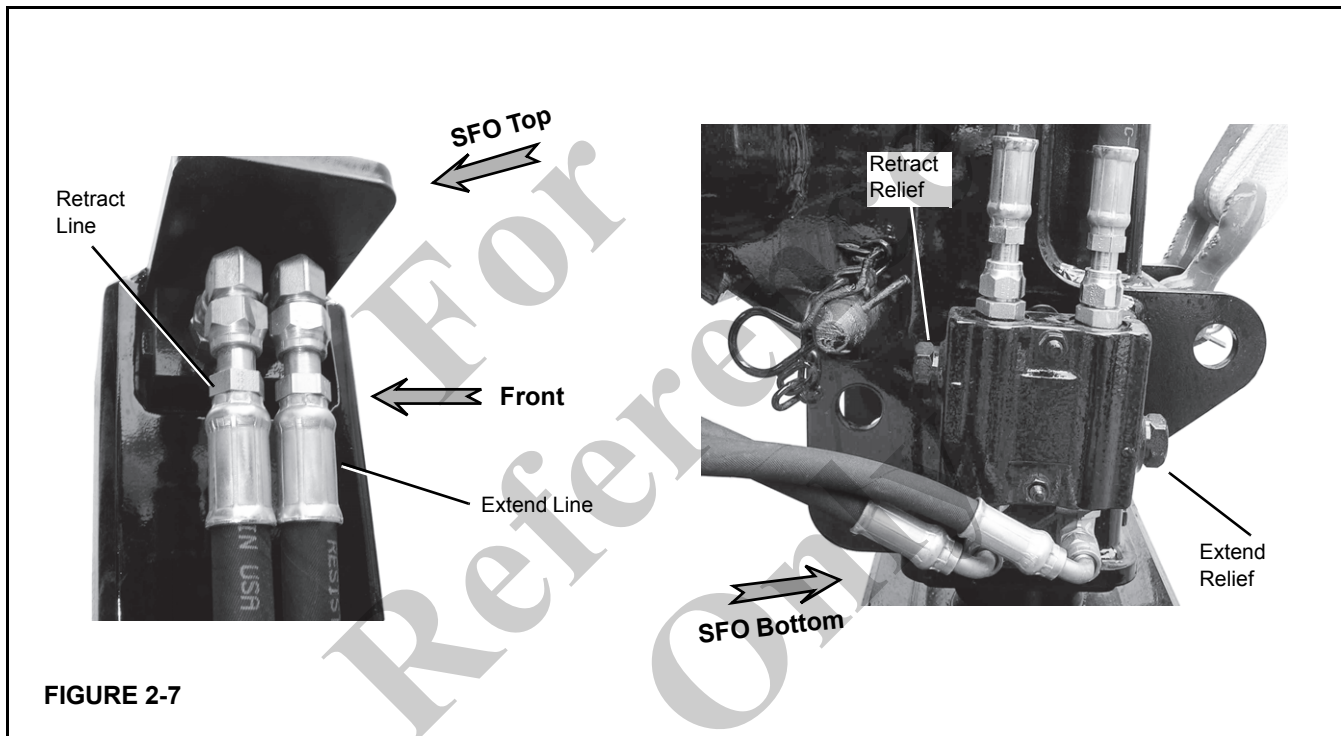

FIGURE 2-7
1. Disconnect the SFO extend and retract lines (Figure 2-7). Cap the retract line and install a gauge in the extend line.